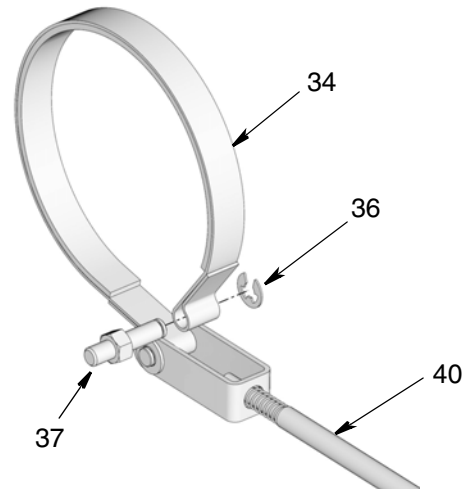

FIG. 47
- a. Install band (34) around brake hub (12) (FIG. 47).
- b. Slide anchor pin (37) through (34) the frame.